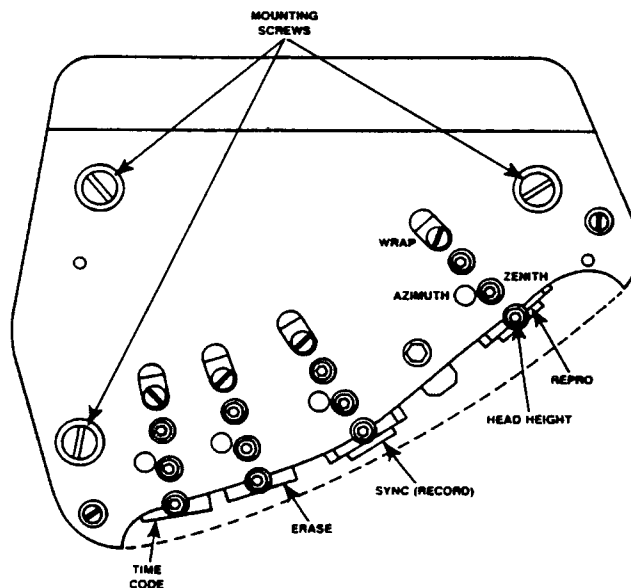

Figure 6-23. Headstack Adjustment Screw Locations
- STEP 3** While playing back the 10kHz tone, adjust the azimuth adjustment screw (Refer to Figure 6-23) so that the reading on the ACVM is at peak amplitude. When the peak amplitude of the ACVM is read, check the phase relationship of the signals on the oscilloscope. All channels will be in phase.